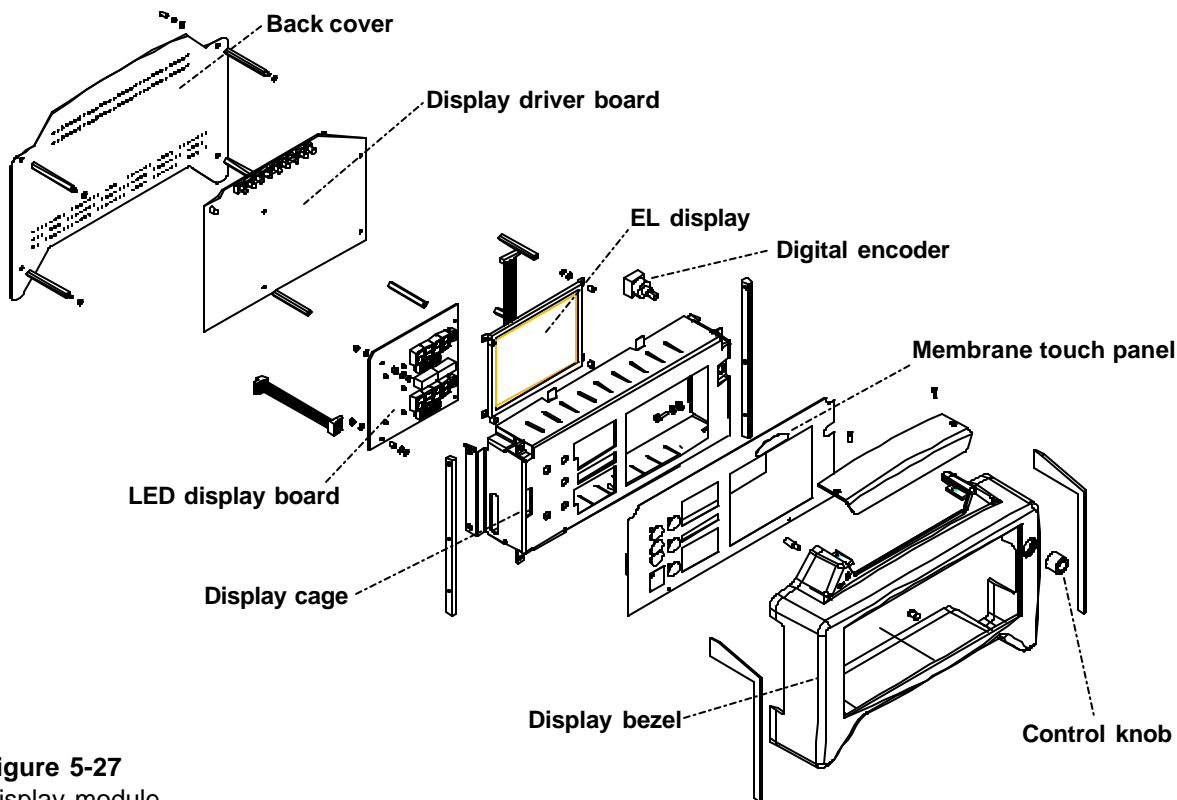

Figure 5-27
5.111 Display module (Figure 5-27)